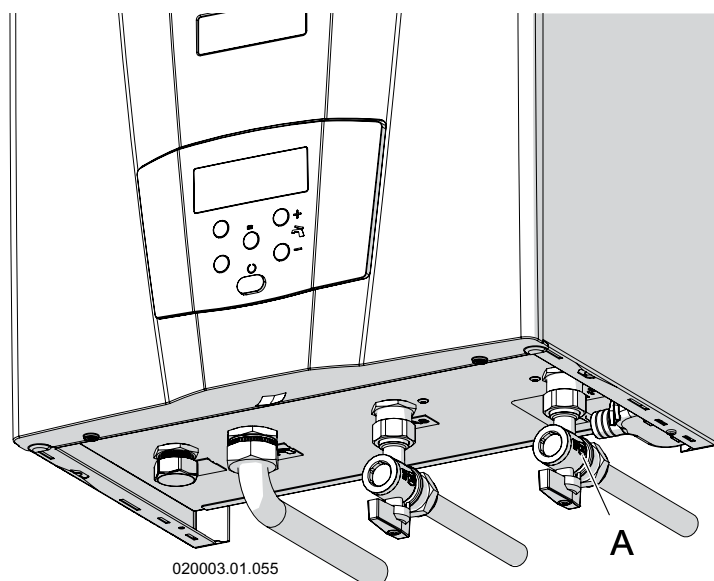

Figure 6-12 – Domestic hot water flow rate selector switch ("A")
- 5.- If the water temperature is too cold, the flow rate must be reduced using a cock located upstream of the appliance, until the desired temperature is reached (see Figure 6-12, detail "A").